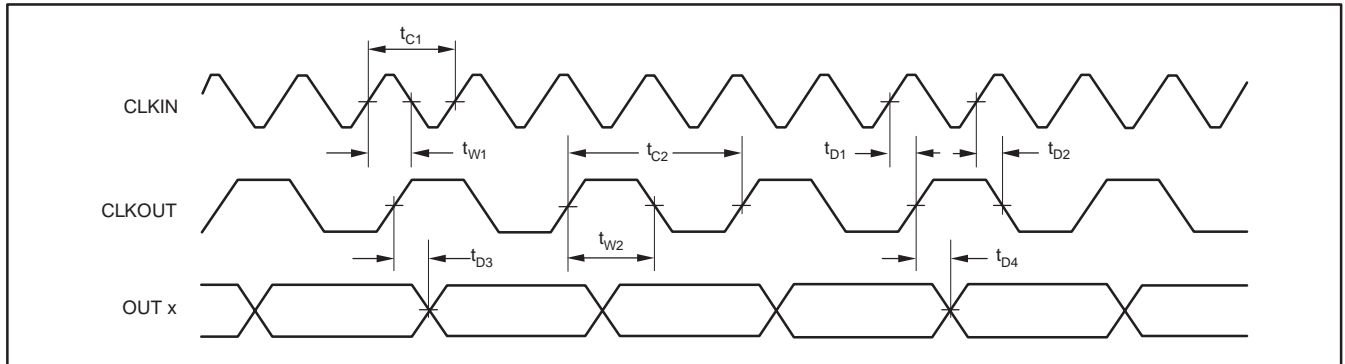

Figure 1. ADS1205 Timing Diagram
- (1) All input signals are specified with $t_R = t_F = 5\text{ns}$ (10% to 90% of BV_{DD}) and timed from a voltage level of $(V_{\text{IL}} + V_{\text{IH}})/2$. See Figure 1.
(2) With reduced accuracy, the minimum clock period can go down to 30ns.